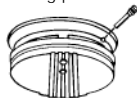

FIGURE 8
**TAMPER RESIST LOCKING PIN:** To make your smoke alarm tamper resistant, a locking pin has been provided with your alarm. Using this pin will help deter children and others from removing the alarm from trim ring. To use the pin, insert it into the hole in the side of the alarm after the alarm has been installed on the trim ring (see figure 8). NOTE: The tamper resist pin will have to be removed in order to change the batteries. Use long nose pliers to pull the pin out of the hole. It is now possible to remove the alarm from the trim ring.